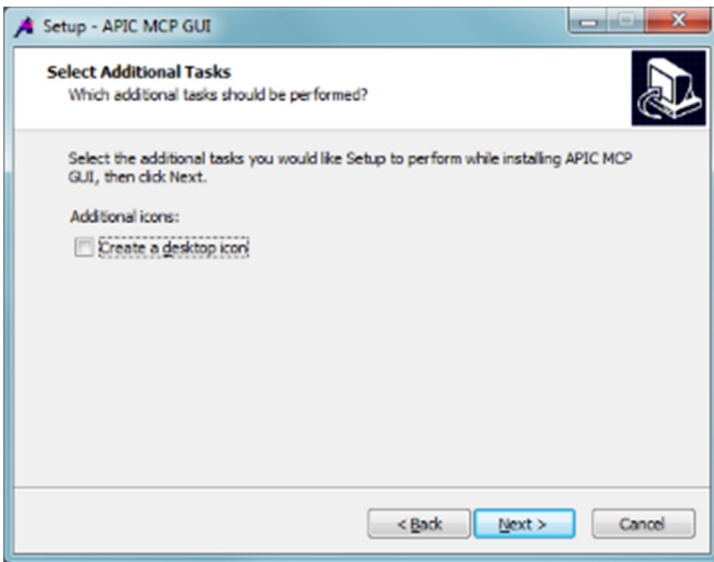

Figure 4 - Desktop Icon creation screen in the MCP GUI Setup program
- The next screen, illustrated in **Figure 4**, allows you to create an optional desktop shortcut to the program. If desired, click the “Create a desktop icon” checkbox and click Next to continue.